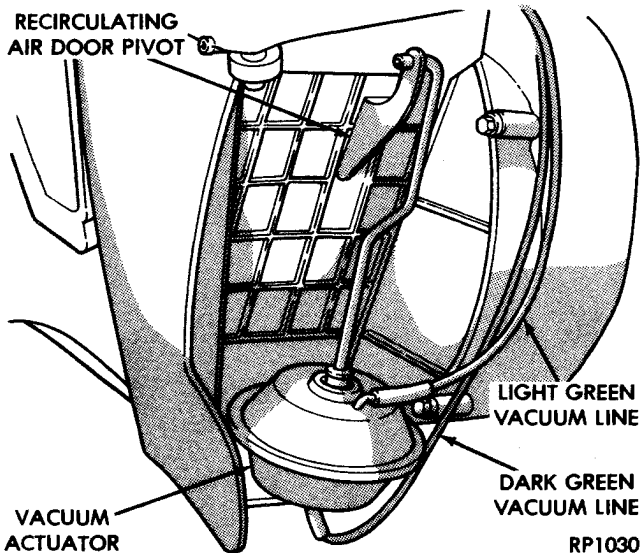
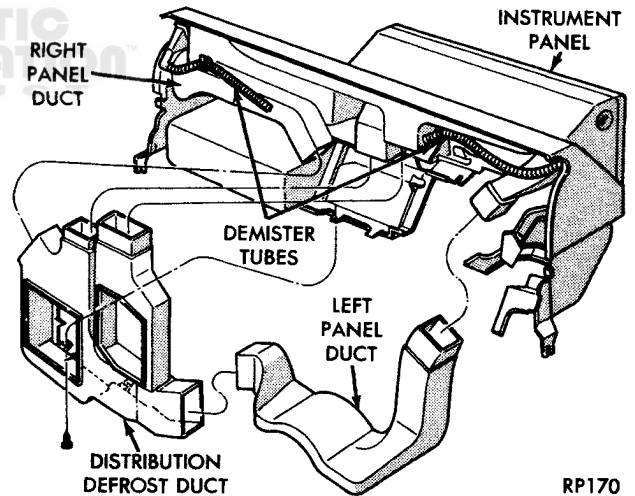

Fig. 4—Recirculating Air Door Vacuum Actuator
Fig. 5—Air Distribution Ducts
**Removal and Installation (Fig. 4)**
- (1) Disconnect vacuum line.
- (2) Located and remove two vacuum actuator attaching bolts.
- (3) Disengage drive linkage from recirculating air-door pivot and remove the actuator from the vehicle.
**Removal and Installation (Fig. 5)**
- (1) Remove lower instrument panel module, see Group 8E "Instrument Panel".
- (2) Remove two distribution duct attaching screws from under the front edge of the instrument panel.
- (3) Slide duct downward and remove from vehicle.